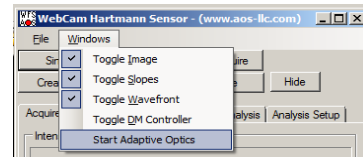

Figure 5.1 - Menu option for starting the adaptive optics form.
When the user selects the Start Adaptive Optics menu option from the Windows menu in the Hartmann sensor software (Figure 5.1), the Adaptive Optics (AO) form will launch with the DM Controller. The figure below shows all the tabs of the Adaptive Optics tab.